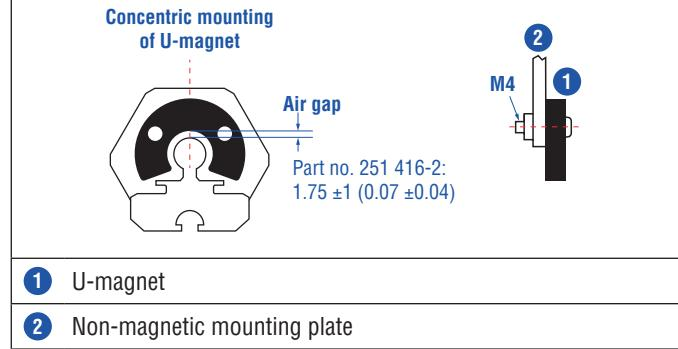
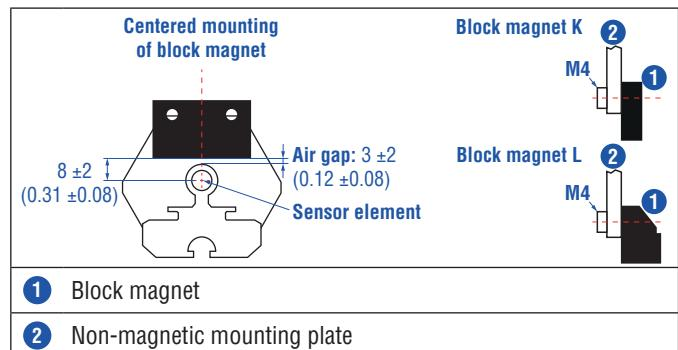

Fig. 13: Mounting of U-magnet (part no. 251 416-2)
Fig. 14: Mounting of block magnet K (part no. 251 298-2) and block magnet L (part no. 403 448)
- Mount block magnets centrally over the sensor rod or the sensor profile. The maximum permissible air gap must not be exceeded (Fig. 13/Fig. 14).